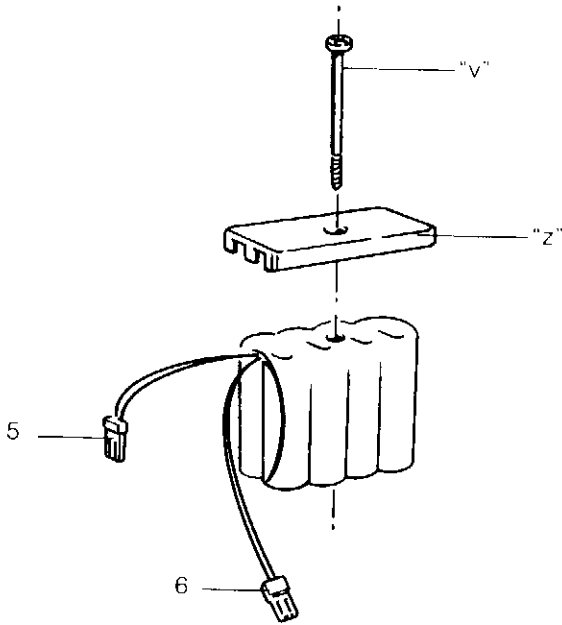
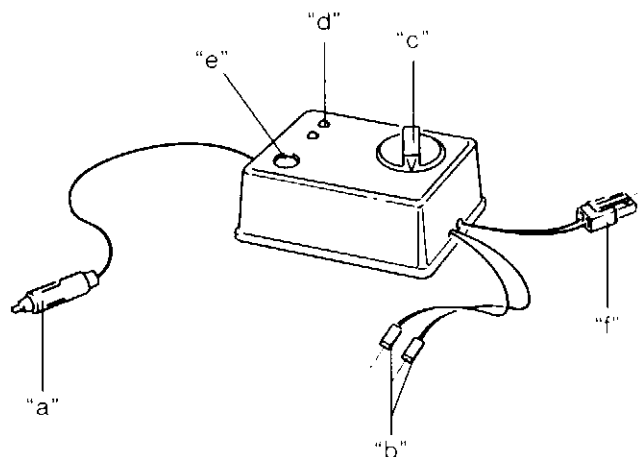

Fig. 20
Fig. 21
(Figs. 20 & 21)
The Mini Pack batteries (Fig. 20) installed in the car have not been charged and therefore, before you attempt to start the engine, they need to be charged with the battery charger supplied (Fig. 21) as described in paragraph 1.1 below.
1 - Mini Pack batteries (Fig. 20)
- Insert the plug (a) (Fig. 21) into a car's cigar lighter socket.
Battery charger (Fig. 21)